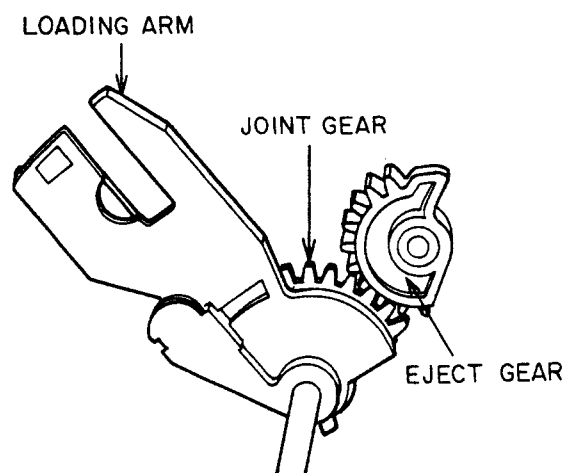

Fig. 3-3
- 2) Hold the LOADING ARM (T) and turn it 30 degrees clockwise, then pull out the shaft's left end from the bracket. Take special care when removing it to avoid damaging the JOINT and EJECT GEARS. (Refer Fig. 3-3)